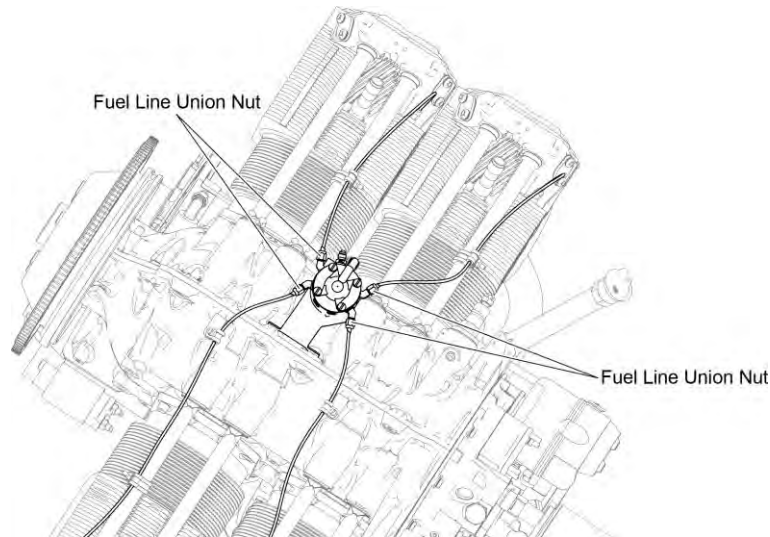

Figure 5
- (f) Torque the fuel line union nut (Figure 5) between 35 to 50 in.-lbs. (4 to 6 Nm).